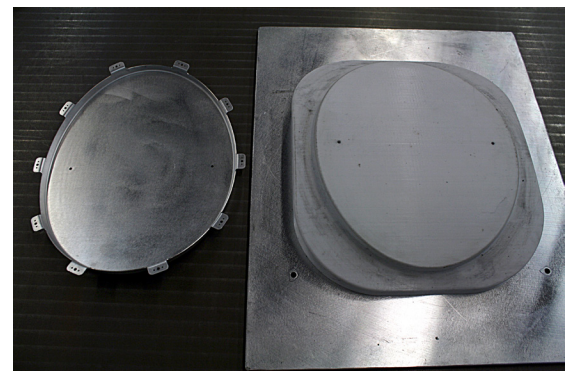

Figure 4: Hydroformed parts at Piper Aircraft using FDM technology.
As is often the case, the material properties necessary for their hydroforming process led engineers to FDM technology. FDM printers offers unparalleled versatility in durable parts. These parts are tough enough to be used as advanced conceptual models, functional prototypes, manufacturing tools and production parts. In Piper's case, the material best suited to their needs was Polycarbonate (PC), which can withstand hydroforming pressures ranging from 3,000 to 6,000 psi, suitable for forming all the structural parts produced by Piper (Figure 4).